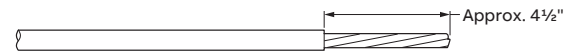

Figure 6
3. Strip the insulation from the cable end baring approximately 4½" of conductor (Figure 6).